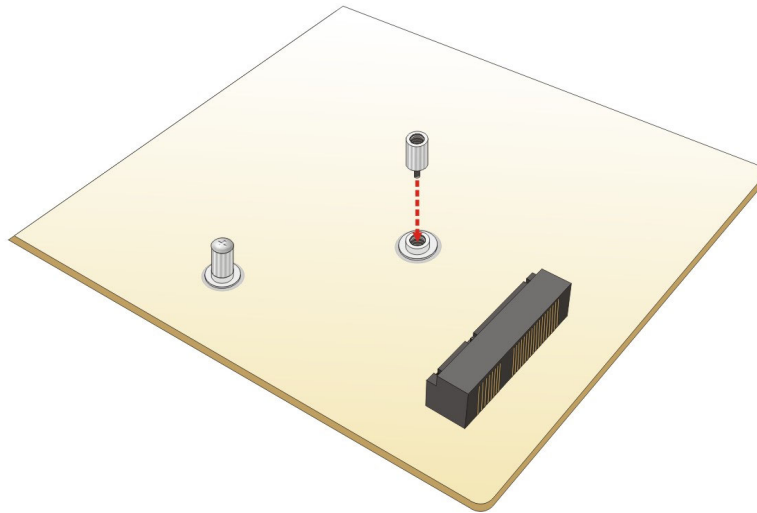

Figure 4-10: Installing the Standoff
Step 2: **Install the standoff to the screw hole for the half-size PCIe Mini card.** Install the supplied standoff to the screw hole for the half-size PCIe Mini card (**Figure 4-10**).